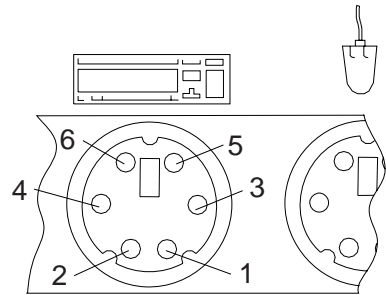

Figure 2-4. Keyboard Connector Voltage Check
- Check the voltage at the keyboard cable connector on the system board as shown in Figure 2-4, after the POST.